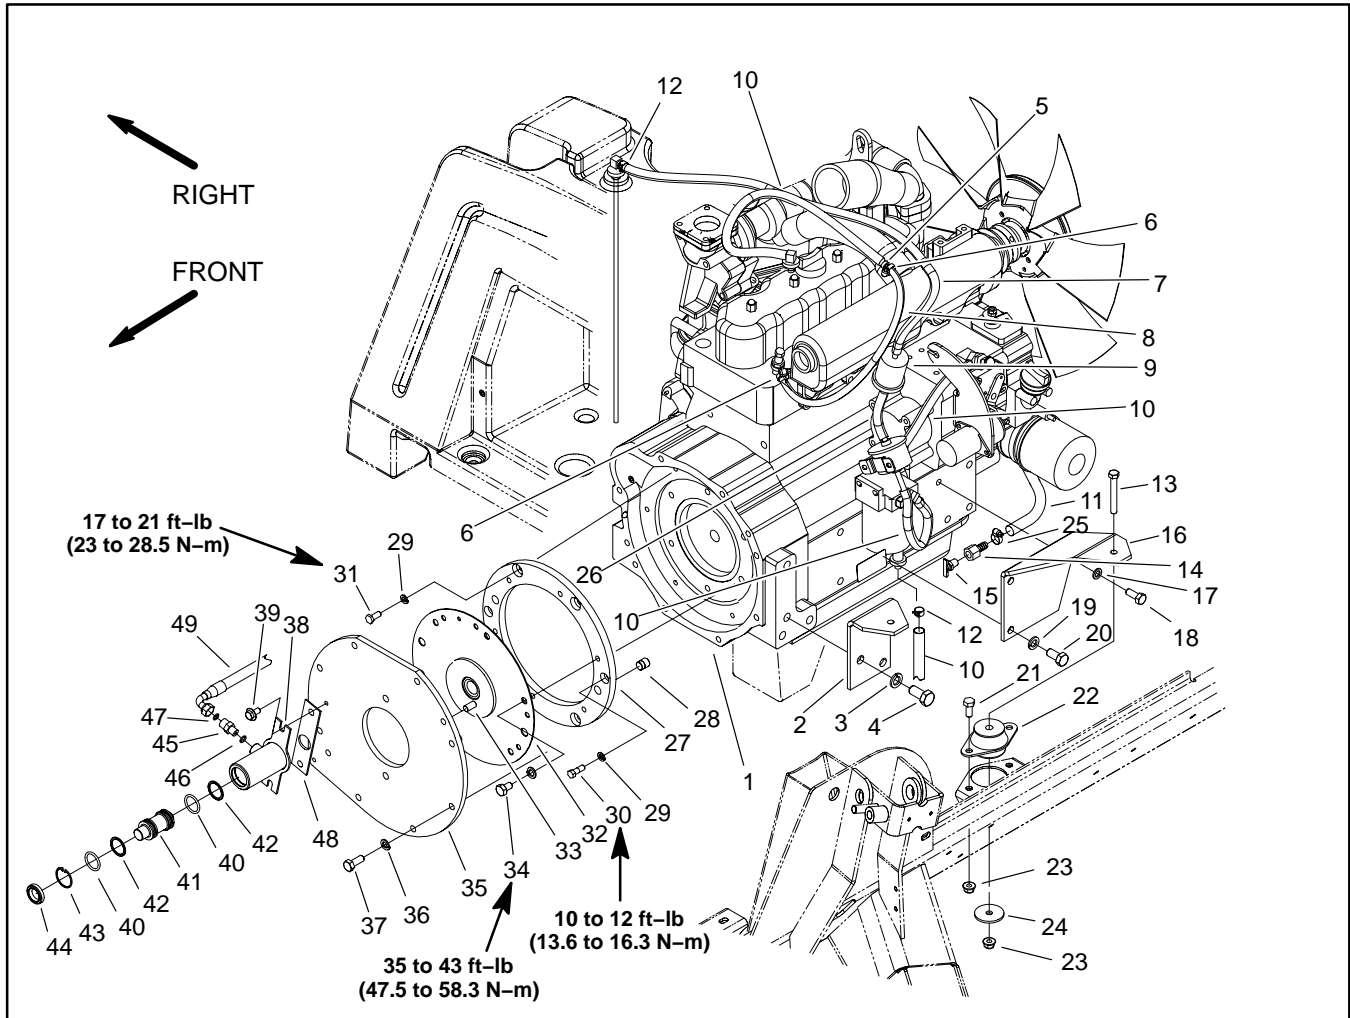

Figure 9
19. If necessary, remove engine mount brackets from the engine using Figure 9 as a guide.